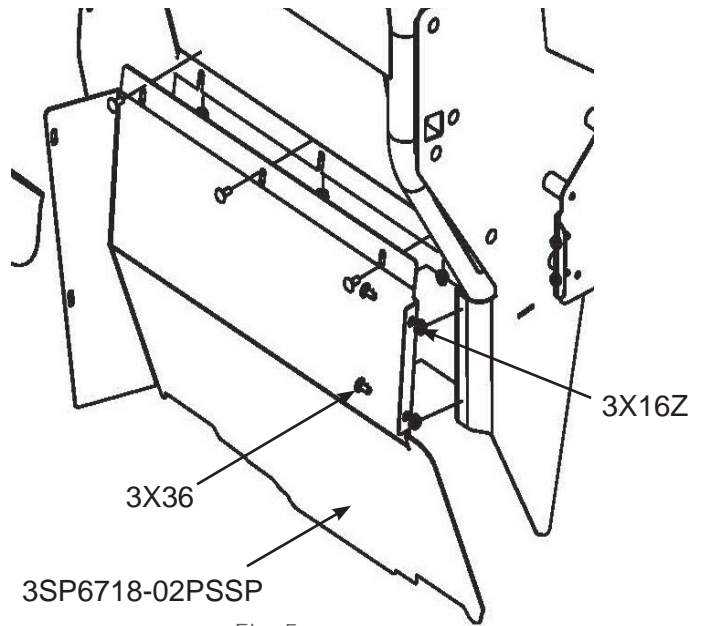

Fig. 5
- B. Similarly, place the passenger's side bucket seat protector (3SP6718-02-PSSP), get all bolts started and tighten to secure. The seat protector fits over the seat rails and tight to the floor when in proper location. (Fig. 5)